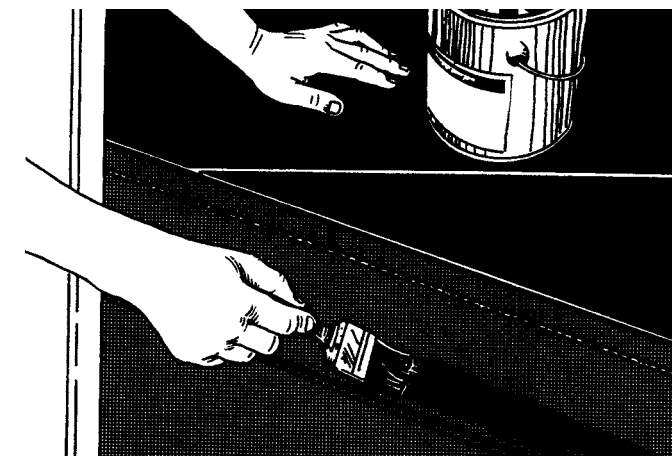

Fig. 11-10
20. Apply an even coat of the proper cement over the entire fabric step area starting at the first ply fabric cut (Fig. 11-10). If two coats of cement are used, allow first coat to dry thoroughly before applying second coat.